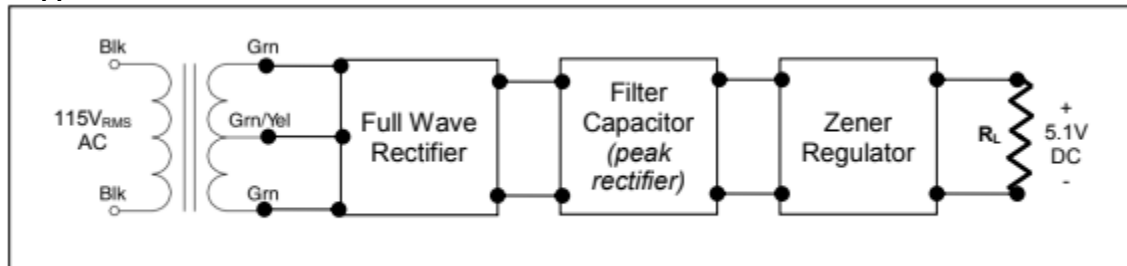

Figure P.1 – Basic AC-to-DC Power Supply Block Diagram
2. **Figure P.1** shows a block diagram of the necessary circuits cascaded to create a basic AC-to-DC power supply. It is similar to **Figure 4.20** in the Sedra textbook.